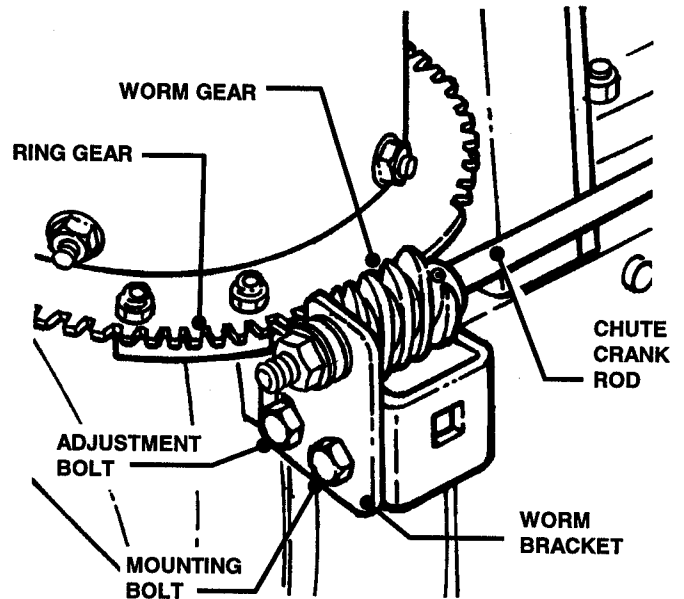

FIGURE 4.13
1. Loosen adjustment bolt. Move crank worm bracket away from ring gear slightly. **NOTE:** The worm gear should always maintain full contact with ring gear after adjustment. Retighten adjustment bolt. If crank still does not operate satisfactorily, lubricate worm gear and ring gear with grease. See Figure 4.13.